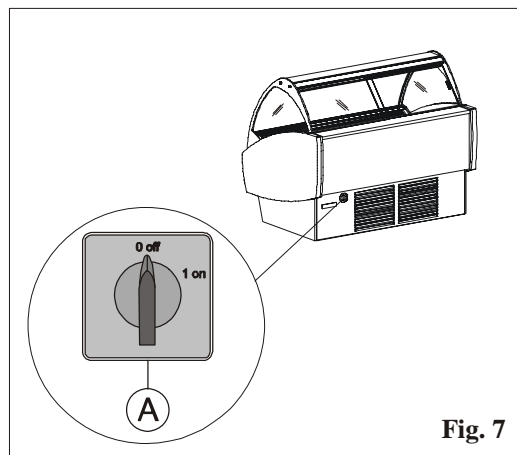

Fig. 7
- 2) Activate the display cabinet master switch, which is found on the rear protection panel. To introduce the electric power supply to the display cabinet, place the master switch at position "1" (fig. 7 pos. A).
To stop the plant act on switch (A), which is found behind the rear protection panel. To disconnect the electric power supply to the display cabinet, place the master switch at position “0” (fig. 7 pos. A).
For optimal functioning of the display cabinet, it is recommended to perform prolonged defrosting, shutting the display cabinet down for at least 12 hours, by deactivating the electric power supply switch (A) positioned on the rear protection panel of the display cabinet (fig. 7).